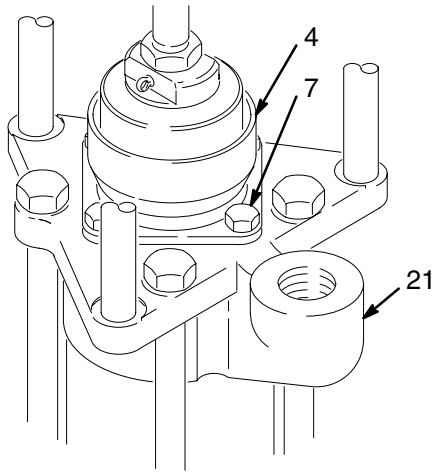

Fig. 2
Check the tightness of the packing retainer screws (7) weekly. The screws should be tight enough to stop leakage, but no tighter. Always **relieve the pressure** before adjusting the packing retainer screws. See Fig. 2.